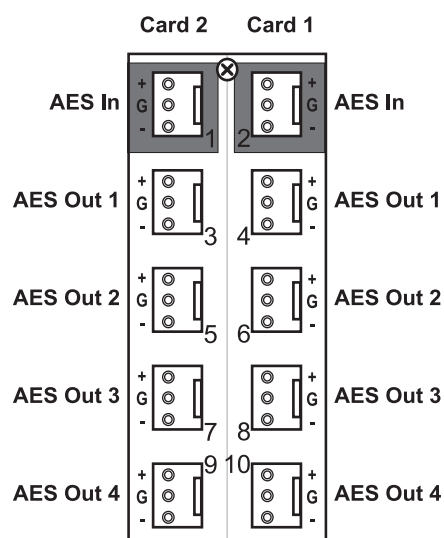

Figure 2.3 Cable Connections for the 8320AR-043 Split Rear Module
- **8320AR-043** Split Rear Module — Each module occupies two slots and accommodates two cards. This rear module provides one AES input and four outputs per card. (**Figure 2.3**)